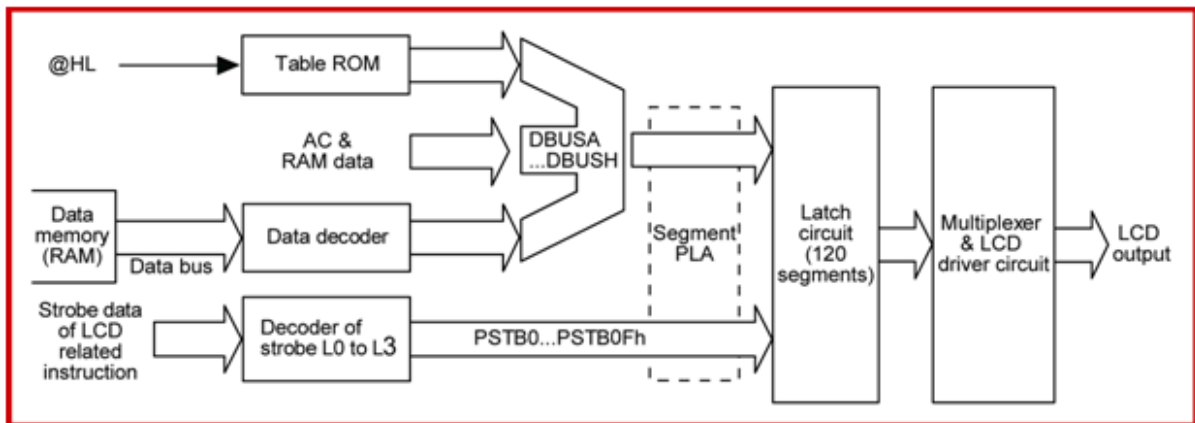

Figure 4-1-3-1 Principal Drawing of LCD Driver Section
Each LCD driver output corresponds to the LCD 1/5 duty panel and has 5 latches (refer to **The Figure 4-1-3-3 Shows Sample Organization of Segment PLA Option**). Since the latch input and the signal to be applied to the clock (strobe) are selected with the segment PLA, the combination of the segments in the LCD driver outputs is flexible. In other words, one of the data decoder outputs “DBUSA” to “DBUSH” is applied to the latch input L, and one of the PSTB 0h to PSTB 0Fh outputs are applied to clock CLK.
*The Figure 4-1-3-3 Shows Sample Organization of Segment PLA Option*